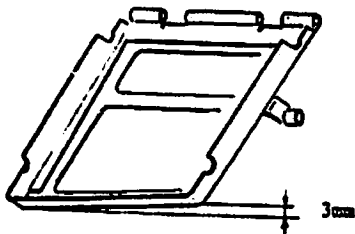
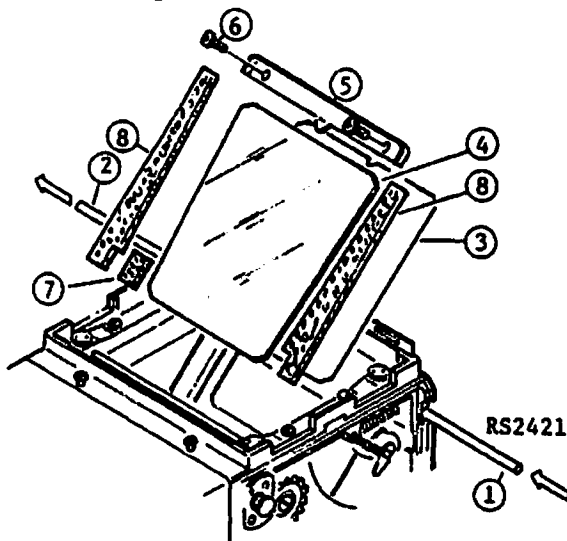

Fig. 40
Fig. 42
- (1) Fill up gap of rivetted Light baffle plate by glue (DB. Bond), and paint mat lacquer.
- (2) The upper end of the mirror curtain is placed to set 3 raised marks.
- (3) In order to keep the parallel of Mirror holder, the left side of the Mirror holder is bent about 3mm as shown in Fig. 40.
- (4) Assemble in the reverse order of disassembly.
- (5) Replace shaft (RS2421).
- (6) Attach Mirror in the order of the numerals in a circle as shown in Fig. 42.
- (7) Mirror holder shall touch Stopper of both sides of the body.